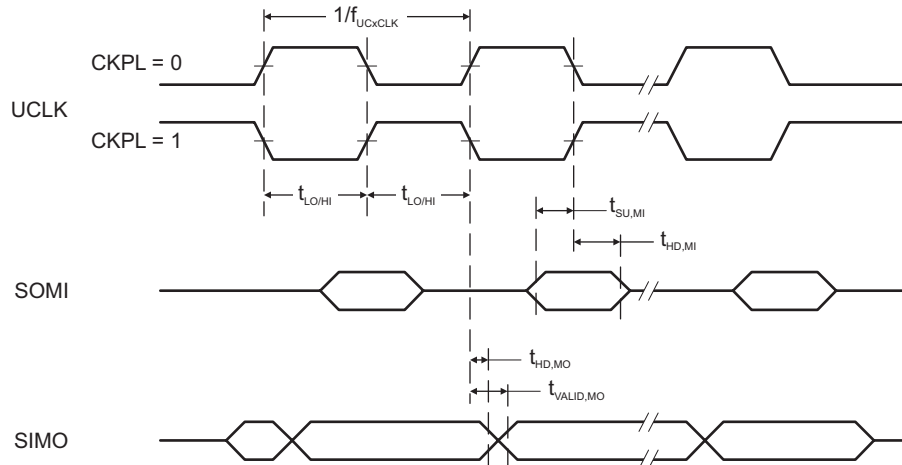
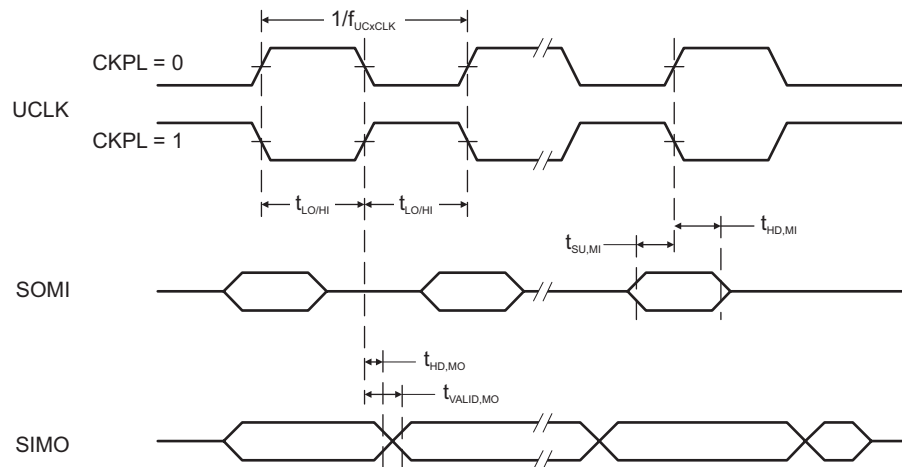

**Figure 5-11. SPI Master Mode, CKPH = 0**
**Figure 5-12. SPI Master Mode, CKPH = 1**
**5.32 USCI (SPI Master Mode)**over recommended ranges of supply voltage and operating free-air temperature (unless otherwise noted)(1)(see Figure 5-11 and Figure 5-12)
- (2) Specifies the time to drive the next valid data to the SIMO output after the output changing UCLK clock edge. See the timing diagrams in Figure 5-11 and Figure 5-12.
- (3) Specifies how long data on the SIMO output is valid after the output changing UCLK clock edge. Negative values indicate that the data on the SIMO output can become invalid before the output changing clock edge observed on UCLK. See the timing diagrams in Figure 5-11 and Figure 5-12.